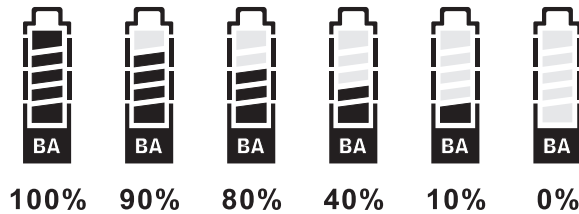

Fig. 19
5. BA: Transmitter Battery Level. The battery meter is lit when the transmitter is powered on. The battery meter gives a percentage (%) indication of remaining battery life, as shown. Replace with new, fresh batteries when battery indicators fall to 10% (1 indicator remaining). Fig. 19.